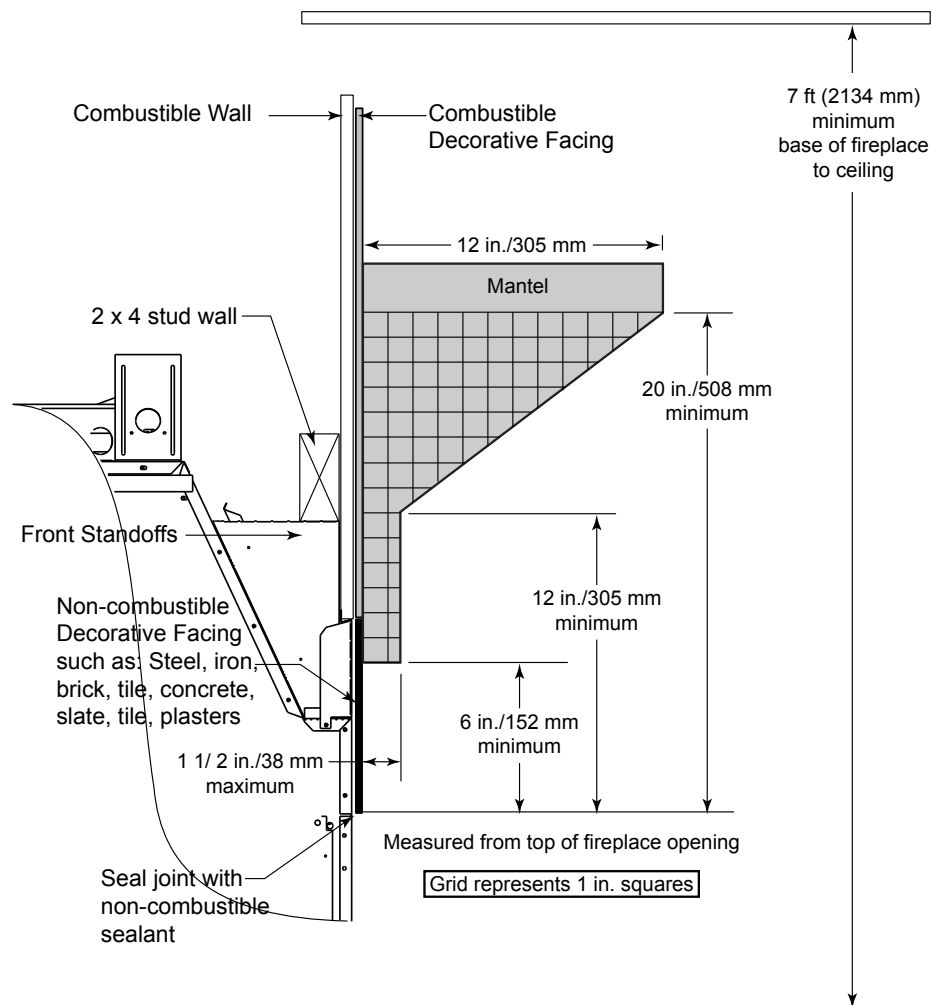

Figure 11.11 Clearances to Mantels or other Combustibles above Fireplace
- Refer to shaded areas of Figure 11.11 for locations and dimensions of combustible mantels